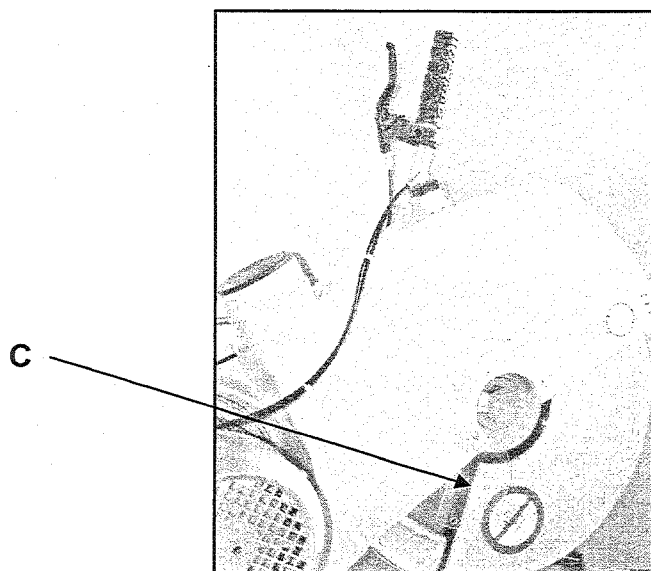

Fig. 11
- Remove the transparent protection (Fig. 11 part. **C**) making it turn after having removed two of the three fixing screws.